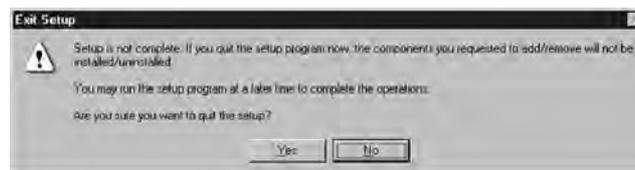

Fig. 5
- To continue installation, click the **No** button. (Fig. 5)